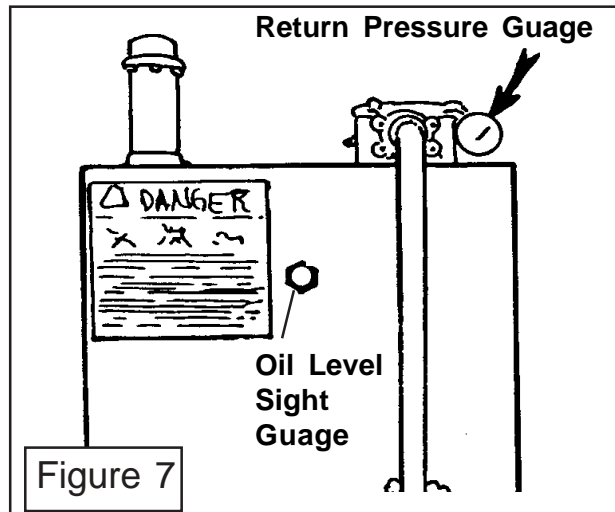

Figure 7
4. Fill Hydraulic Tank to Sight Guage. Fill the Hydraulic Reservoir until the fluid is visible through the sight guage (See Figure 7)
8. Monitor Oil Condition. Between filter changes, monitor condition of filter by reading Pressure Gauge mounted on filter on top of the Tank (See Figure 7). If pressure reads 15 psi or greater at 1800 RPM engine speed and normal operating temperature (140 deg. F. or greater), filter element should be changed. Pressure gauges are color-coded to help indicate when to change element.